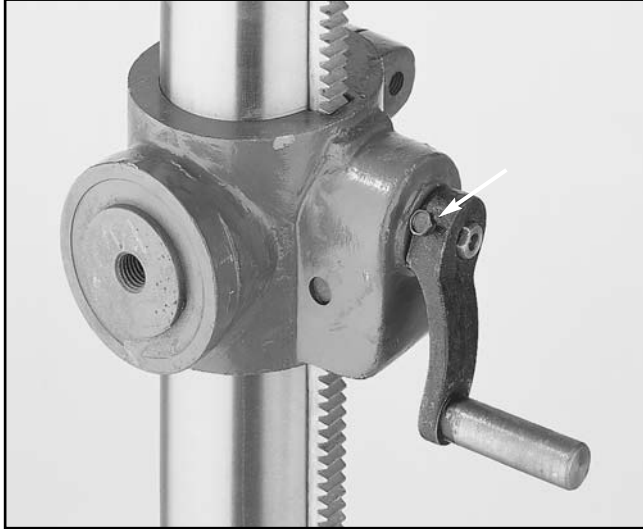

Figure 6.
1. Place the crank handle onto the raise/lower shaft and tighten down. **Figure 6.**